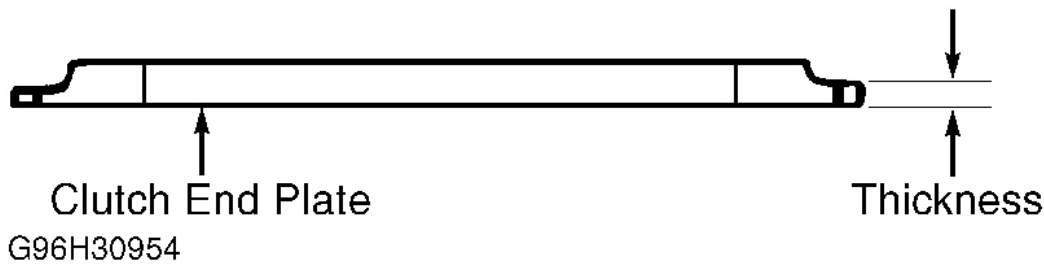

Fig. 20: Measuring Forward Clutch End Plate Thickness
6. If clearance is not within specification, select a NEW clutch end plate, then recheck. End plates are available in thickness range from .138" (3.50 mm) to .185" (4.70 mm), in increments of .004" (.10 mm). See Fig. 20 . After replacing clutch end plate, ensure clearance is within specification.